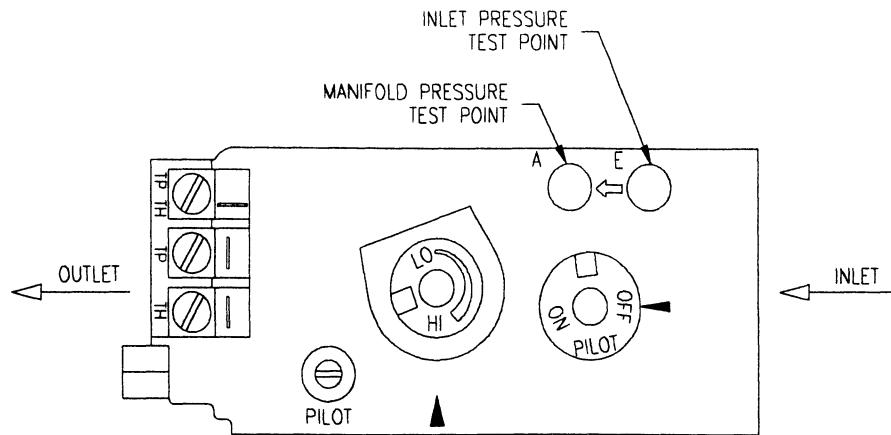

Figure 3
5. Push in the gas control knob slightly and turn clockwise → to the "OFF" position as shown in Figure 3.